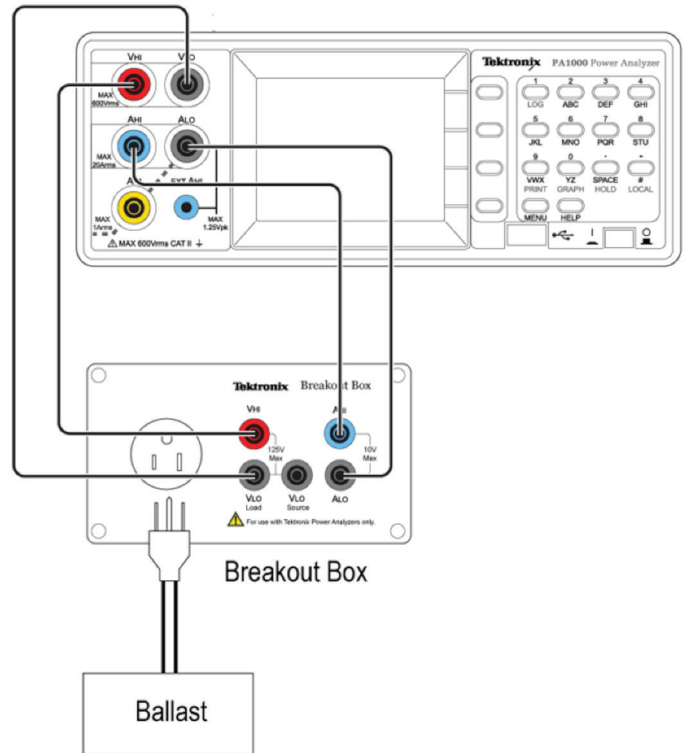

Figure 2. Hardware Setup for Ballast Input Measurement.
- Connect the PA1000 and Breakout Box as shown in Figure 2 .
- Plug the DUT into the Breakout Box as shown in Figure 2.